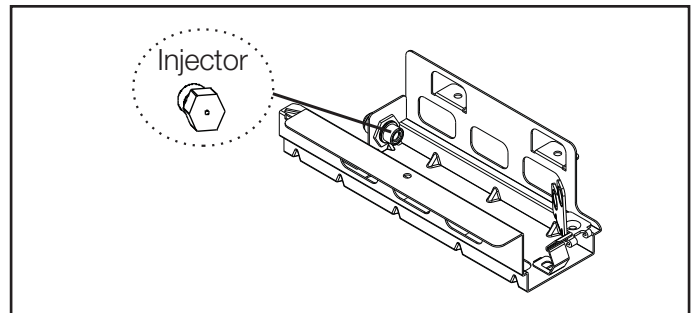

Figure 9
3. Locate the injector on the right hand side of the cradle as shown in figure 9.